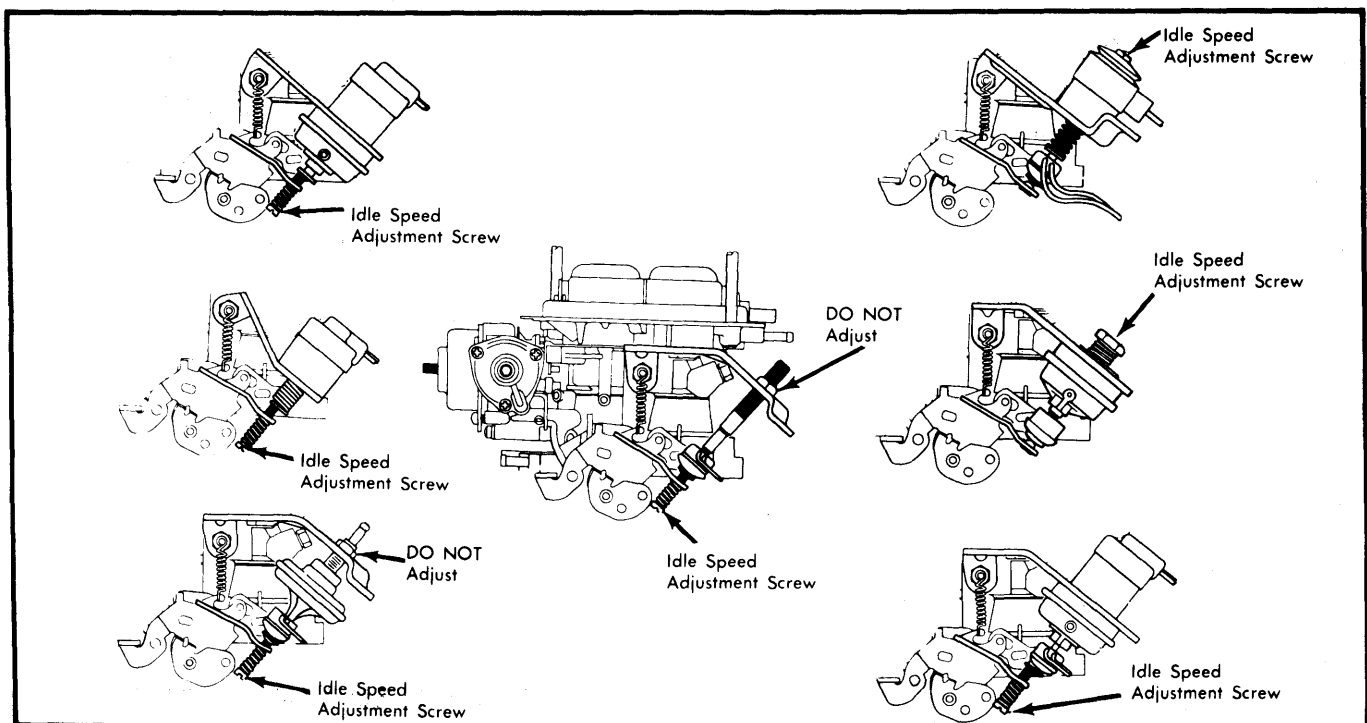

Fig. 3 2.3L Idle Adjustment Locations
2) Place transmission selector in "D". Adjust curb idle using appropriate screw. See Fig. 3. Reconnect cooling fan and remove test equipment.